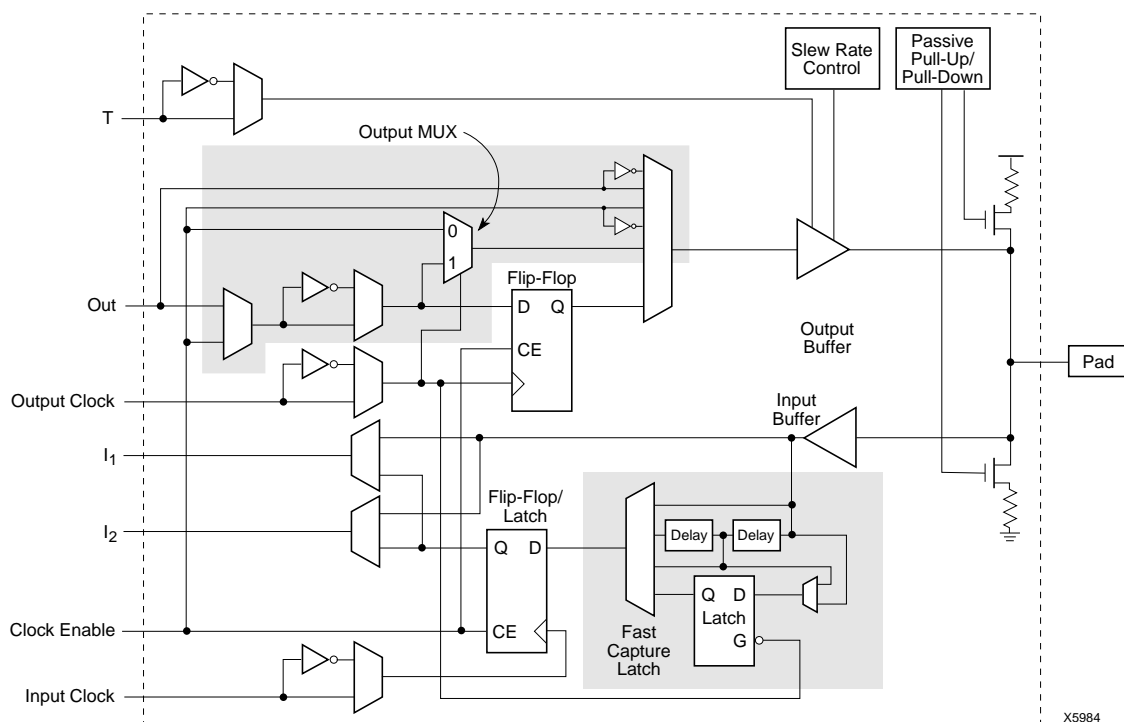
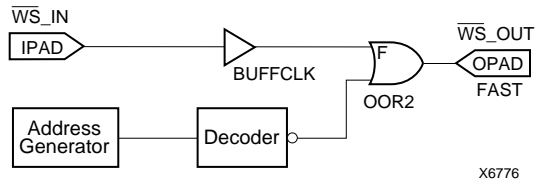

Figure 5: XC4000EX IOB with Fast Capture Latch and Output Multiplexer (Mux)
Figure 8: Fast Write Strobe Generator
A new feature is included in the XC4000EX expressly for this purpose—the Fast Capture latch. (See Figure 5.) This transparent-Low latch is included in each IOB, in series with the regular transparent-High input latch or rising-edge triggered flip-flop. The latch enable is easily accessible from the dedicated IOB clock lines, but need not be sourced by the same clock as the regular latch or flip-flop. Instead, the Fast Capture latch can be enabled by one of the faster clock paths, through the Global Early or Fast-CLK buffers.
To decrease the setup time, the delay on the input path must be decreased, relative to the clock delay. To retain a zero hold time, it cannot be decreased too much, as too short a delay would introduce a positive hold time requirement. The XC4000EX IOB therefore includes a programmable 2-tap delay element, as shown in Figure 5. The standard delay can be used with the Global Low-Skew clock, and a zero hold time is guaranteed. Since a BUFGE or BUFFCLK has a shorter delay, a zero hold time is guaranteed for them as well. Similarly, a partial delay can be used with the Global Early clock, and a zero hold time is also guaranteed, for both BUFGE and BUFFCLK. However, if no delay is inserted, a zero hold time is *not* guaranteed with respect to the FastCLK output..
As shown in Figure 5, the XC4000EX IOB includes a multiplexer on the output path. By placing the appropriate library element, any 2-input function can be implemented, including AND, NAND, OR, NOR, XOR, and XNOR, as well as a simple pass-gate. Or, of course, it can simply be used to multiplex two outputs, as described in the next section, "Increasing Effective I/O."
The delay through the output multiplexer is different for each input, as can be seen from the diagram in Figure 5. Sometimes a single input even has different delays, depending on the path through the multiplexer. To simplify the use of the output multiplexer, the special library symbols denoting the multiplexer have an "F" marked on one input. (See Figure 8.) This input comes from the output clock (OK) pin of the IOB, and always has the shortest delay through the multiplexer.
Multiplexed outputs are easily created using the XC4000EX output multiplexer shown in Figure 5.